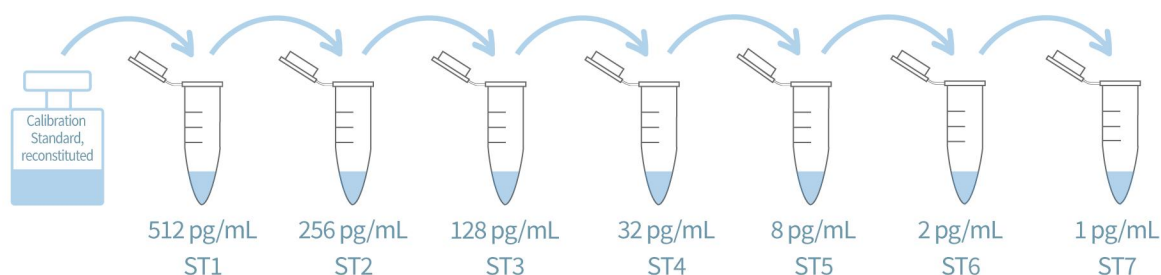

Figure 3. Graphic scheme of hIL-6 Calibration Standard Solutions
- Prepare hIL-6 Calibration Standard Solutions as shown in Fig 3 and Table 3.